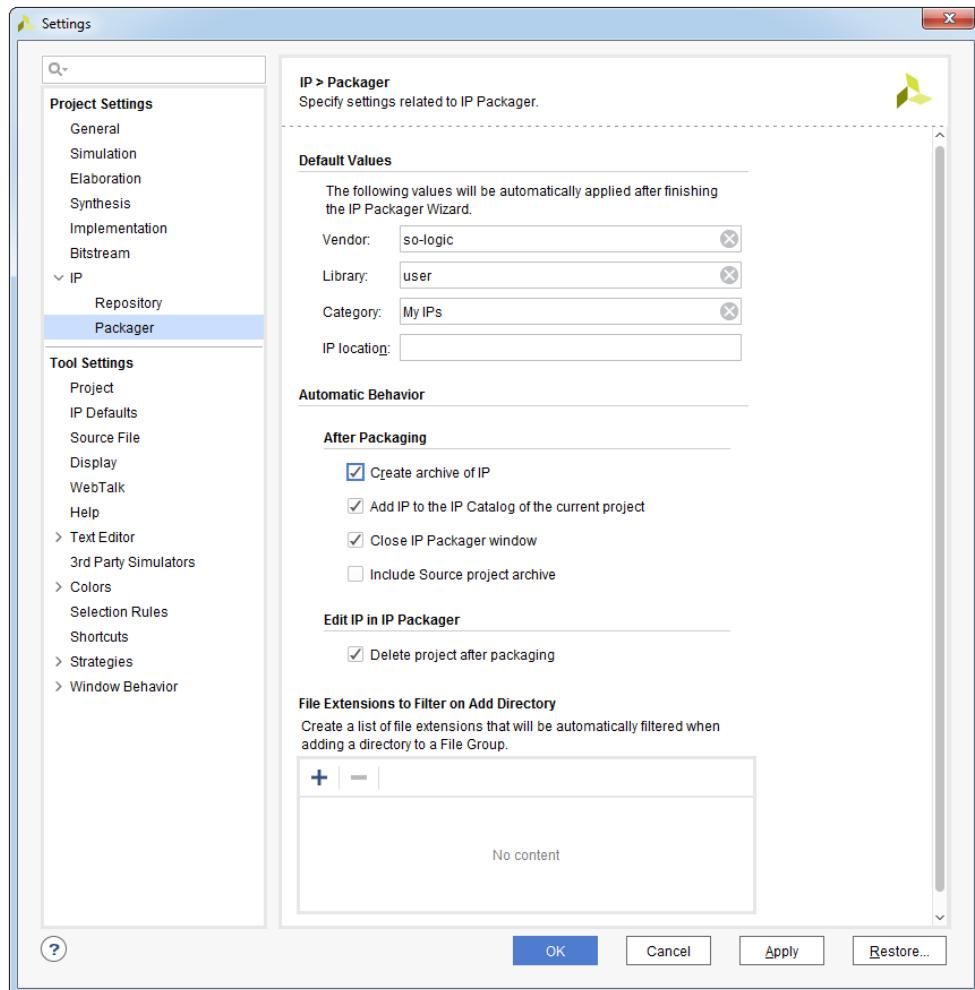

Figure 12.13: Packager window with configured settings that will be applied after packaging process
12. In the Vivado **Flow Navigator**, under the **Project Manager**, click **Settings** command and expand **IP** from the left pane, see Figure 12.13. Global IP project settings are available to help you be more productive when customizing IP.
13. Click **Packager** command under the **IP** section and in the **Packager** tab fill the fields as it is shown on the Figure 12.13.